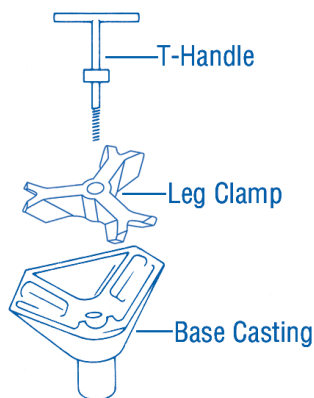

Figure 6
- Screw the base T-Handle clockwise into the bottom of the base casting, until the T-Handle engages the threads (see Figure 6).